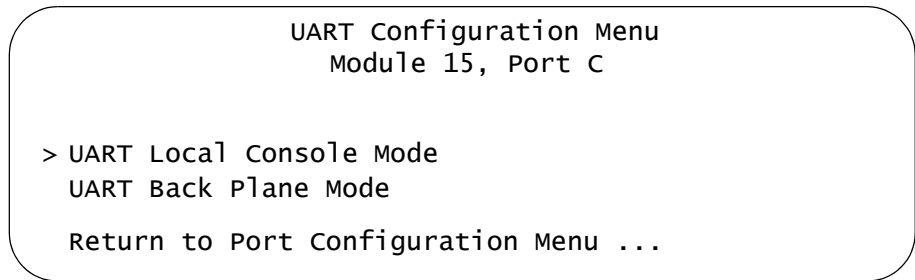

Figure 100. UART Configuration Menu
4. From the TDM Management Menu, select **UART Configurations** to display the UART Configuration Menu, shown in Figure 100.